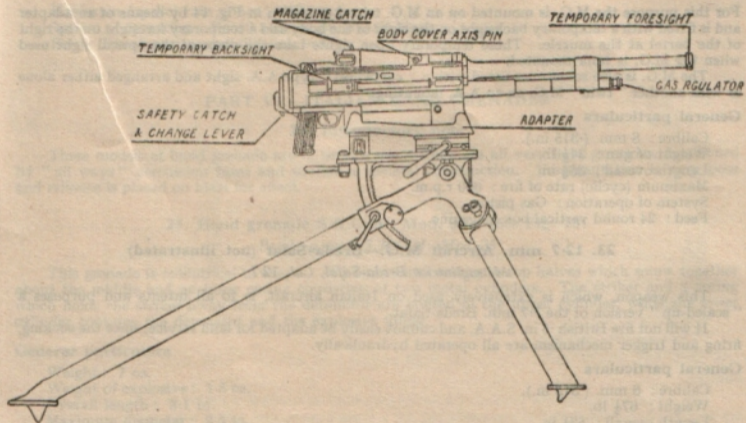

FIG. 14.—3 MM. M.M.G. MOD 38—BREDA
22. 8 mm. Medium M.G., Mod. 38—Breda. (Fig. 14)
For this purpose the M.G. is mounted on an M.G. tripod as shown in Fig. 14 by means of an adapter and is fitted with a temporary backsight on the right of the body and a temporary foresight on the right of the barrel at the muzzle. These temporary open sights take the place of the optical sight used when the M.G. is tank mounted.